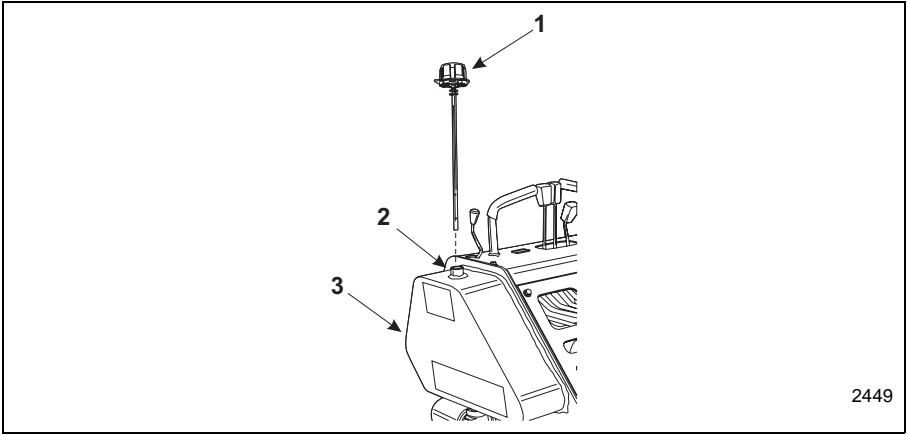

Figure 4-10 Hydraulic Oil Check and Fill
- c. Start and run the engine for about 30 seconds. Using the hydraulic oil level dip stick (Item 1, **Figure 4-10**), check the hydraulic oil level. Add the appropriate hydraulic fluid as needed through the filler port (Item 2, **Figure 4-10**) on top of the upper hydraulic oil tank (Item 3, **Figure 4-10**).